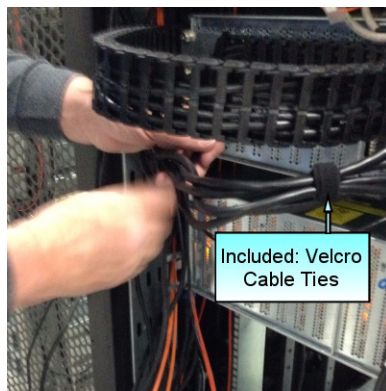

Figure 5-16 Velcro Cable Ties
11. Once cabling is complete, use the provided velcro strips to wrap the cords and hold them tight (Figure 5-16).